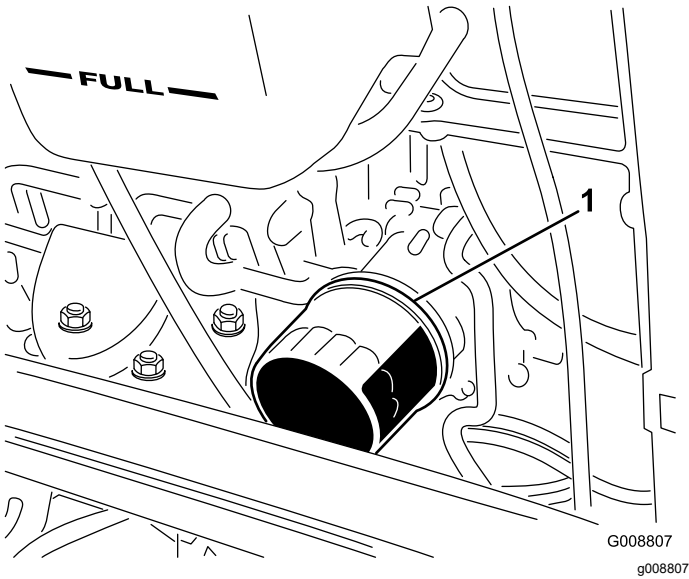

Figure 56
4. Remove the oil filter (Figure 56).